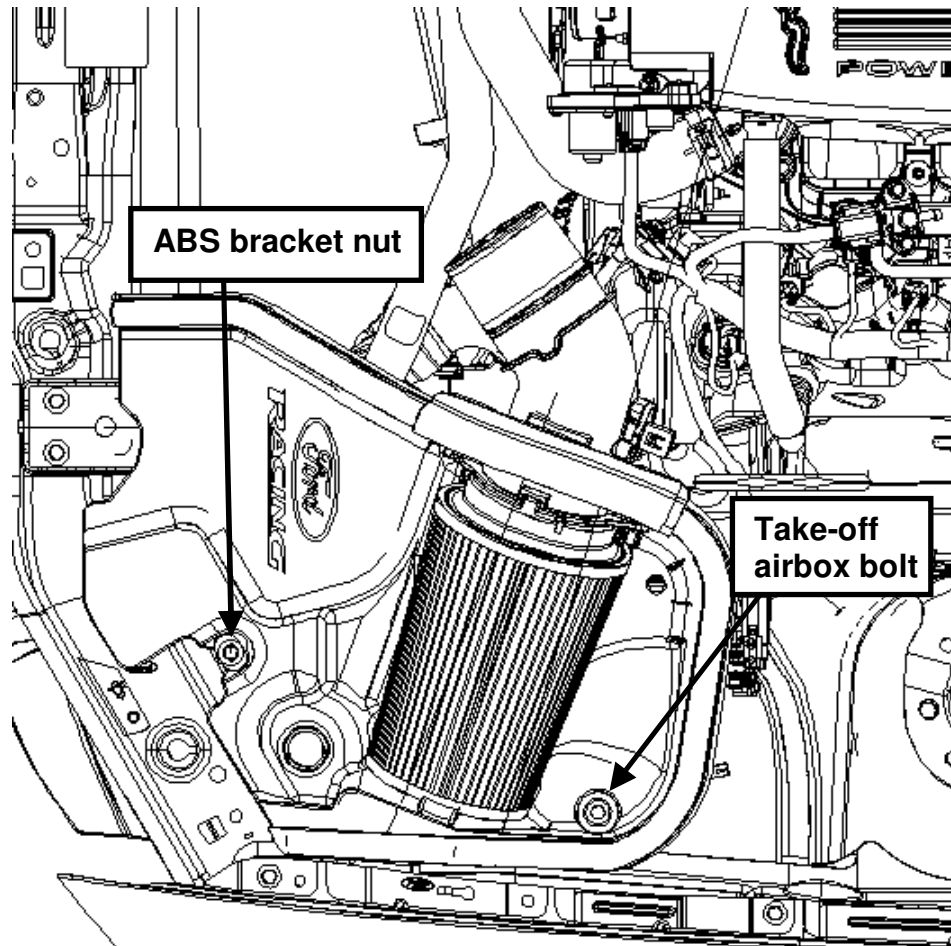

Fig. 6
STEP 4: Lower the complete airbox assembly into the vehicle using the two pegs as guides into the rubber grommets. Use the take-off airbox bolt and newly supplied nut to secure the airbox in the vehicle. Torque the M6 bolt to 8 Nm (70 lb-in), and the nut to 8 Nm (70 lb-in) (See Fig. 6).